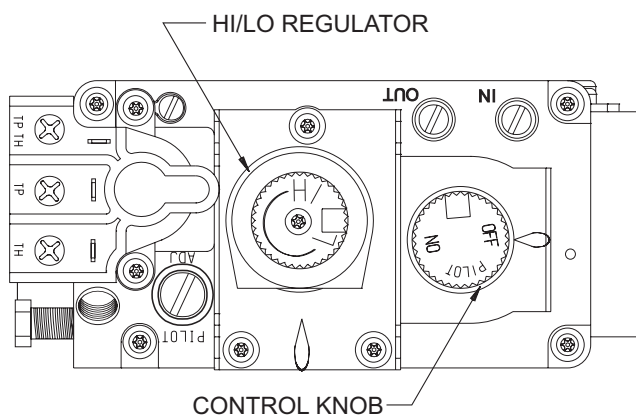

Figure 60
**NOTE:** The gas control valve allows you to increase or decrease the height of the main burner flame. The control valve has a pressure regulator with a knob as shown in Figure 60. Rotate the knob clockwise to “HI” to increase the flame height and counterclockwise to “LO” to decrease the flame height.